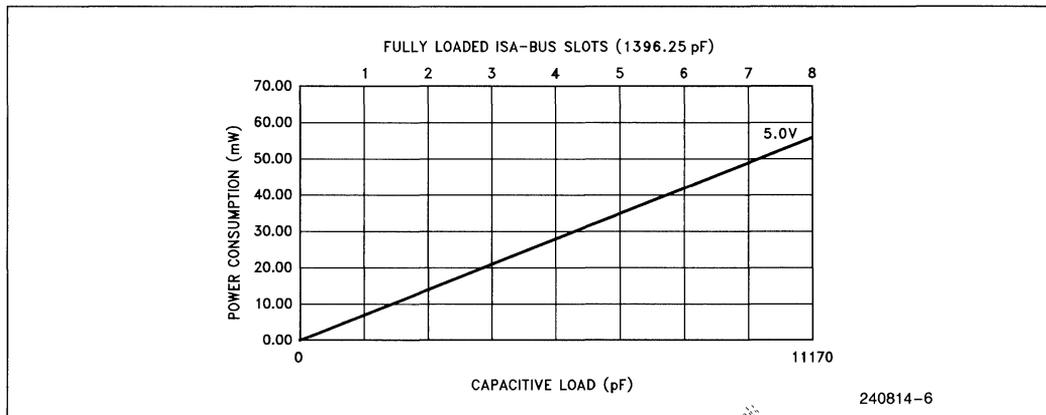
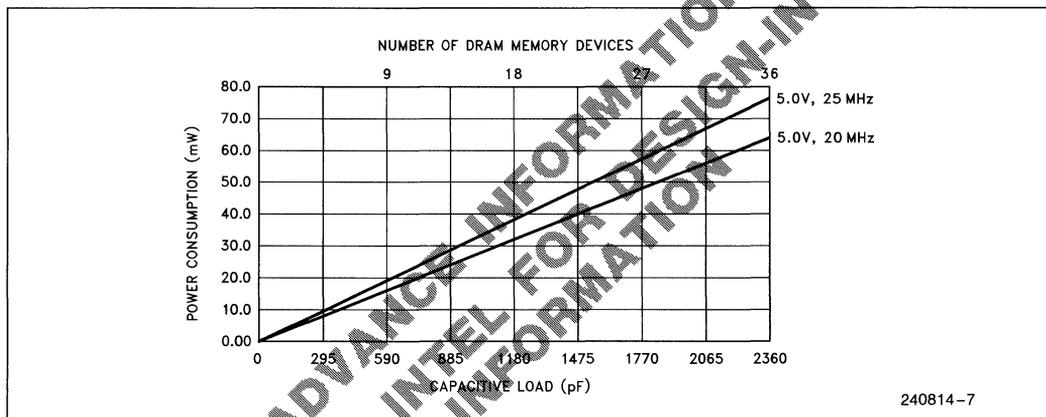
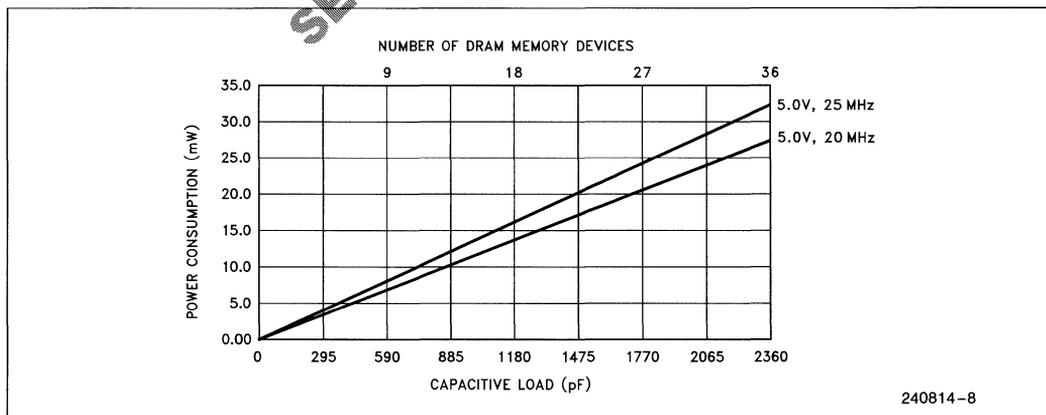

Figure 2.3. ISA Bus
Figure 2.4a. Memory Bus without Cache
Figure 2.4b. Memory Bus with Cache
Figure 2.3 illustrates the power consumption in milliWatts with respect to the capacitive loading on the ISA bus signals of the Intel386 SL CPU. A set of two curves with V_{CC} at 5V and CPUCLK frequencies at 20 and 25 MHz are plotted in Figure 2.4a. This set of curves is provided for the memory bus without a cache subsystem in Figure 2.4a. The power consumption with respect to load capacitance for the memory bus with a cache subsystem is illustrated in Figure 2.4b. To find the Power (P in milliWatts) of the Intel386 SL CPU for the configuration of your system, use the following method.
2. From the curves in Figure 2.3, use the voltage of your system and the total capacitive load of all of the Intel386 SL CPU ISA signals to find the power consumed by the ISA-bus interface.
3. If a cache is connected to the Intel386 SL CPU in your system, use Figure 2.4b to find memory bus power. If cache is not connected, use Figure 2.4a.
From Figure 2.3, the power consumed by the ISA expansion bus interface is found to be 15 mW (the total capacitance of all the pins of a fully loaded AT-bus slot is 1396.25 pF). For a system with no cache, the power consumed by the memory bus for 8 chips is about 15 mW from Figure 2.4a. The internal power at 20 MHz is 1220 mW from Table 2.3-5. The power consumed by Intel386 SL CPU is the sum of the power for the internal power (ISA bus and CPU core) and memory bus. The total power consumed by the Intel386 SL CPU for this system is 1250 mW.
For a system with cache, the ISA bus interface power is 15 mW as previously determined. The memory bus interface power is determined from Figure 2.4b is found to be 8 mW. The internal power remains 1220 mW. The cache bus power is read off from Table 2.3-6 to be 30 mW and the cache internal power from Table 2.3-7 is 170 mW. Hence, in this system, the Intel386 SL CPU consumes a total of 1443 mW.